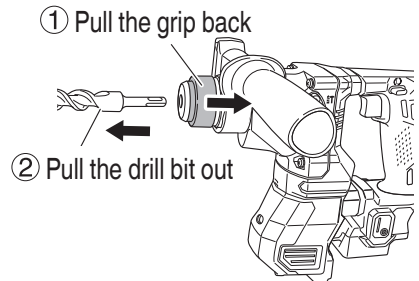

Fig. 10
- (3) Pull the drill bit to make sure it is locked completely.
- (4) To remove the drill bit, fully pull the grip in the direction of the arrow and pull out the drill bit (Fig. 10).